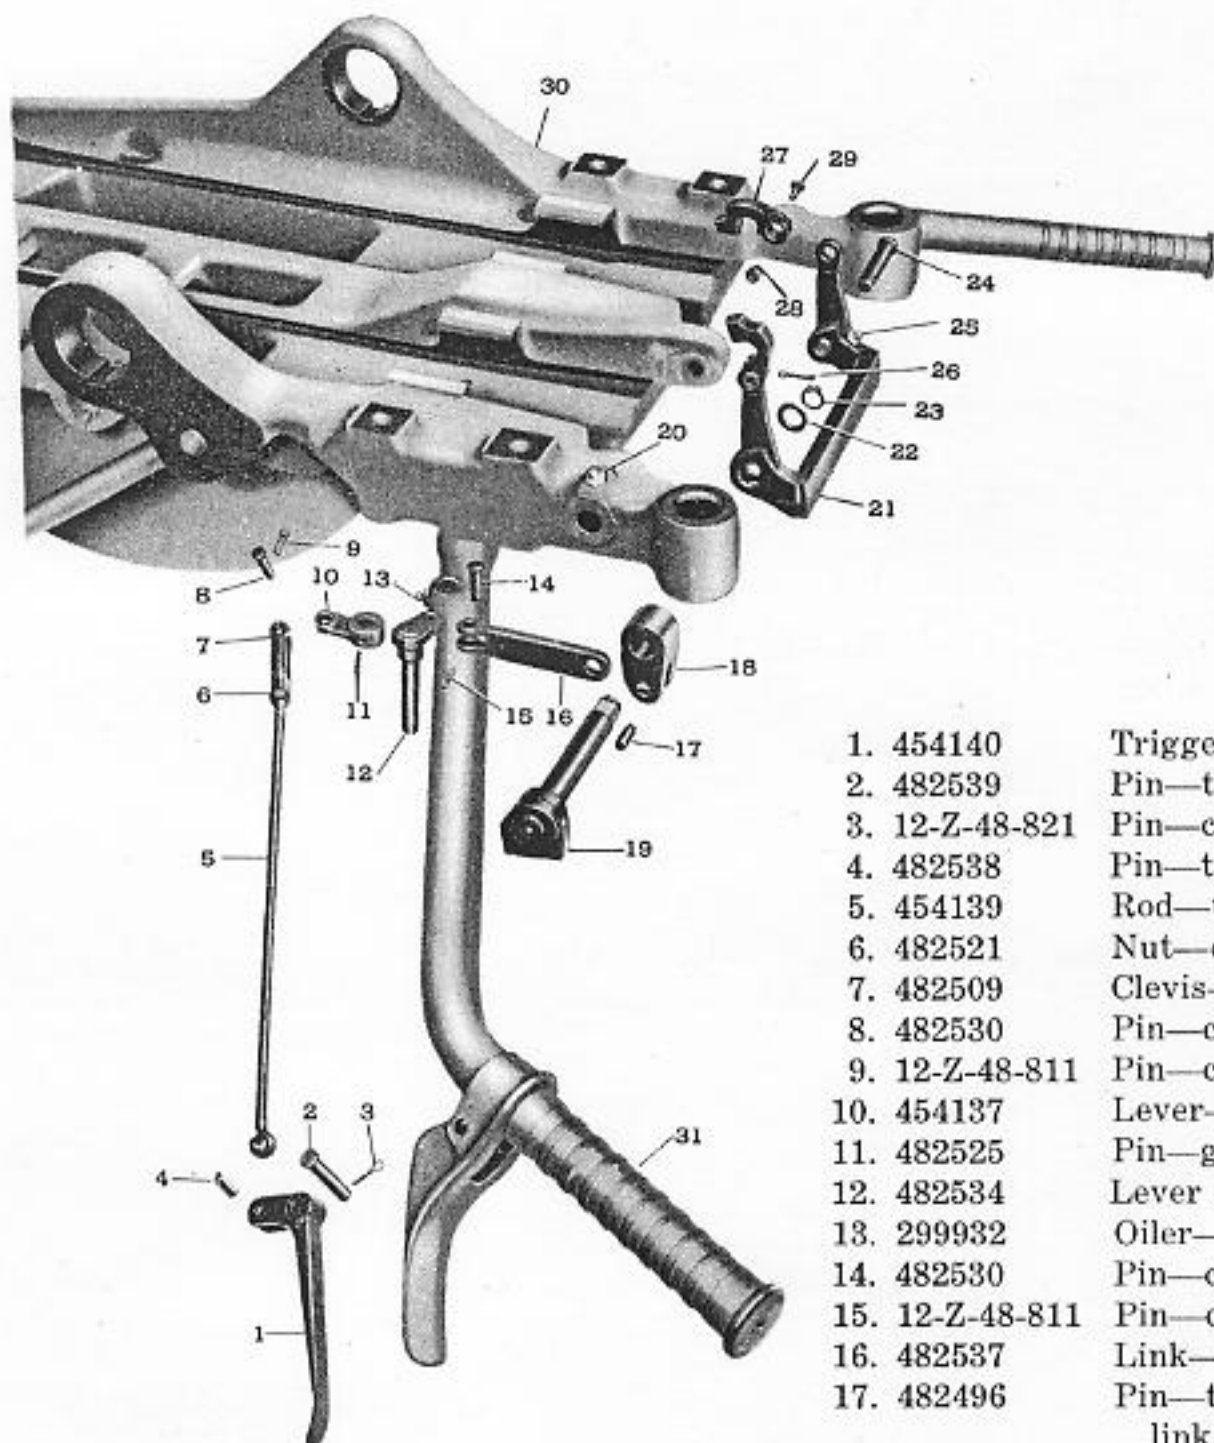

Figure 16. Exploded View of Trigger Mechanism.
9. Handle Bars. Turn the cradle trigger yoke to the rear and downward, and remove the trigger idler-lever-to-link pin (482496) which is exposed from behind the pickup lever (482494). Remove the four screws (482518—front and 482519—rear) which hold the handle bar assemblies (492477—L.H. and 492478—R.H.) to the cradle. See Fig. 16.
Trigger Mechanism. See Fig. 16. Remove the two pressure oilers (299932) from the trigger yoke and cradle. Remove the cotter pin (367676-2) from the trigger-yoke axis pin (482507) and slide the axis pin out of the yoke and cradle. Remove the snap ring (299665-4) and washer (482495) from the inner end of the trigger lever and yoke shaft assembly (482492), using pliers (299818-5) from the gun-tool roll, and slide the lever and shaft assembly out of the yoke and cradle and remove the trigger yoke assembly (454133) from the cradle. Remove the trigger idler lever (454132) from the shaft assembly. **Do not** attempt to strip the trigger lever and yoke shaft assembly (482492) into its component parts, trigger yoke-shaft lever (482494) and yoke shaft (482493). These parts are fitted together at a definite angle when manufactured and are serviced as an assembly. Push out the trigger link-pin retainers (482506) and remove the trigger link pins (482502) and the two trigger link assemblies (482503) from the trigger yoke (487482). **Do not** attempt to strip the trigger link assemblies, as they are serviced as an assembly.
Cradle Trigger Linkage. See Fig. 16. Make a trigger-yoke assembly (454133) by assembling two trigger-link assemblies (482503) on a trigger yoke (487482), fastening them with a pair of trigger link pins (482502) and link-pin retainers (482506), and screwing a pressure oiler (299932) into the tapped hole in the yoke, after coating the oiler thread with white lead or other sealer. Assemble the yoke assembly on the cradle by securing its right end with a trigger-yoke axis pin (482507) and cotter pin (367676-2). Place the trigger idler lever (454132), with its flat contact side forward, on the trigger lever and yoke shaft assembly (482492) and pass the lever and yoke shaft assembly through the cradle and yoke assembly. The lever and yoke shaft assembly is furnished as a unit assembly. Its component parts are not furnished as spare parts. The yoke assembly should be in an erect position when the square end on the yoke shaft is entered into the yoke assembly, with the trigger lever pointing down. Secure the yoke shaft at its inner end with a flat washer (482495) and a snap ring (299665-4), using the pliers (299818-5) from the gun-tool roll. Coat the thread of a pressure oiler (299932) with white lead or other sealer